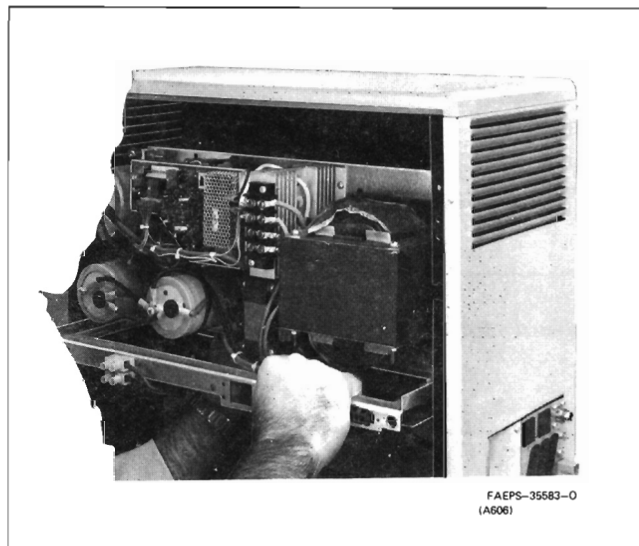

Figure 4. Properly Gripped Chassis
Step 4. Grip the main chassis with the right hand as shown in Figure 4. Find a comfortable grip around the flattened parts of the metal. Adjacent parts have sharp edges.